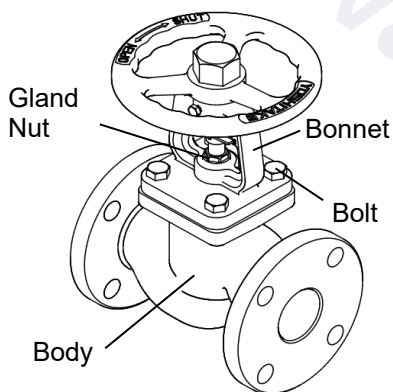

Figure 1
- (1) Store the product indoors in a dust free, low humidity, dry and ventilated environment.
- (2) Installation should be conducted by suitably trained personnel, wearing protective head, eye, hand and foot protection.
- (3) To install the product, make sure that the direction of fluid flow matches the arrow marked on the product.
- (4) In order to avoid excessive piping stress in the valve, carefully align the center of the valve and the connected pipe so that they will be in line.
- (5) In case that the product is expected to be frozen, be sure to conduct freezing prevention measures or water draining treatment (after use).
- (6) The valve can be installed in both horizontal and vertical pipes, but the position must be from upright to sideways. Do not install the valve upside down.
- (7) To use the valve for high-temperature fluids (approximately 200-degree C or higher), raise the valve temperature to the operating temperature, and then tighten the bolts shown in Figure 1 additionally. For additional tightening, ensure that the valve is open, and tighten the bolts in a diagonal sequence using a torque wrench. Tightening should be done gradually and evenly, with increasing bolt torque from a low torque to the tightening torque as listed in the table below.